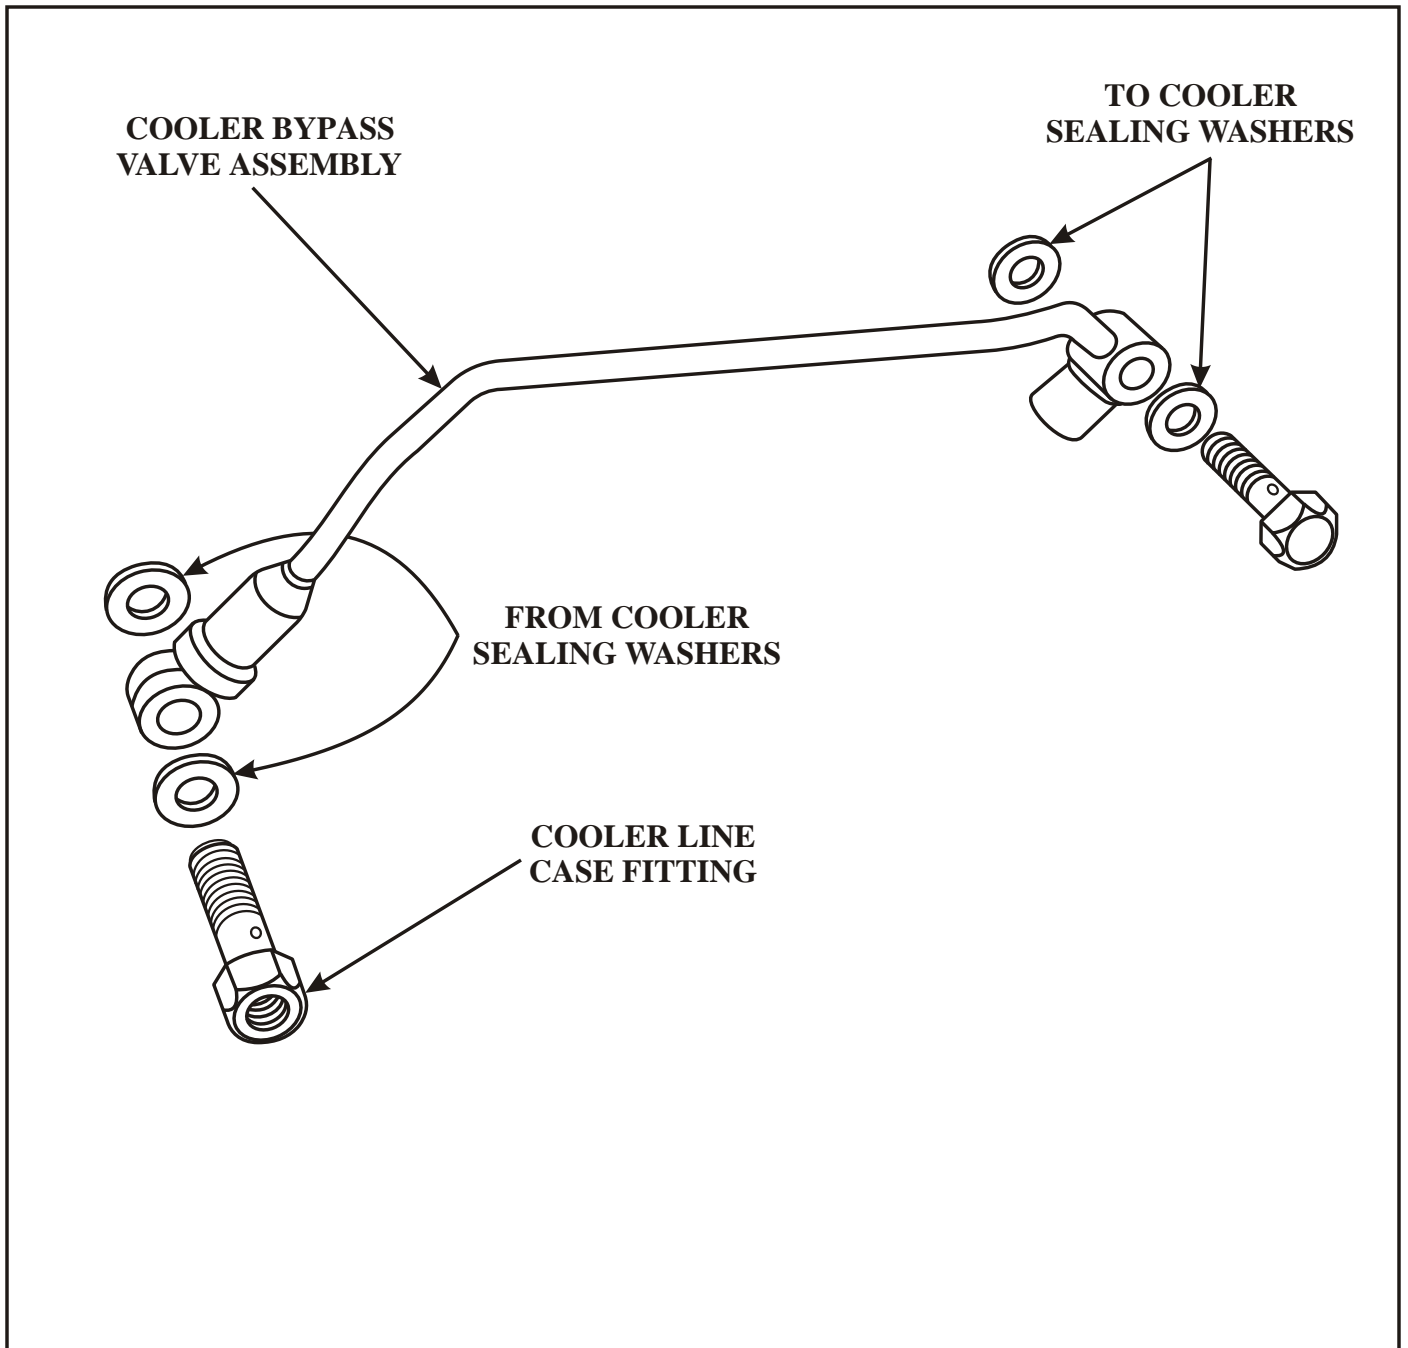

Figure 1
CHANGE: Some 1997 Econoline, Expedition, F-150 Trucks and F-250 Trucks have been equipped with a Cooler Bypass Valve Assembly that requires sealing washers on both the "To Cooler" end and "From Cooler" end of the bypass valve assembly, as shown in Figure 1.
- (1) **COOLER BYPASS VALVE ASSEMBLY** - Added between the cooler line fittings in the case, to increase lube flow during cold weather operation (See Figure 1).
- (2) **CASE FITTINGS** - Requires special case fittings to retain the "Banjo" ends of the cooler bypass valve assembly into the transmission case (See Figure 1).
- (3) **SEALING WASHERS** - Requires sealing washers on both of the "Banjo" ends of the cooler bypass valve to seal properly (See Figure 1).